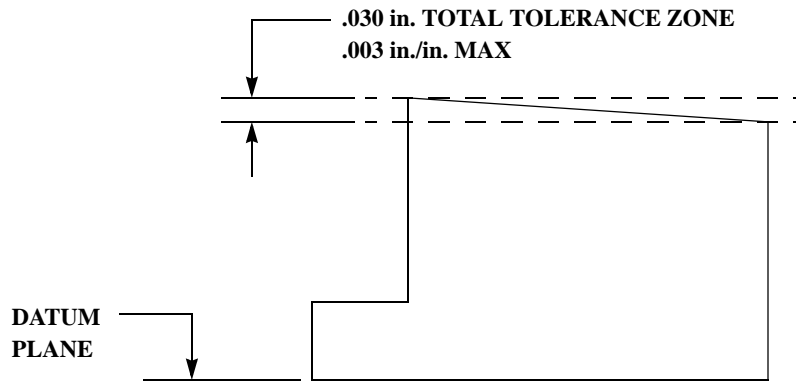

FIGURE 3: PARALLELISM TOLERANCE
- 2.3.2. The feature must be within the specified tolerance of size and any element of its surface must lie between two parallel lines (0.030 inches apart) which are parallel to the datum plane axis. Ref. Figure 3.